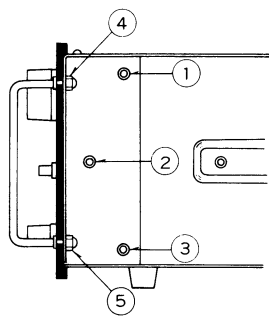

Fig. 4
1. Remove four (4) knobs of lever switches.
3. Remove three (3) six corner screws, nos. ① ~ ③ or remove two (2) nuts, nos. ④ and ⑤, as illustrated in fig. 4. (Left and Right sides)